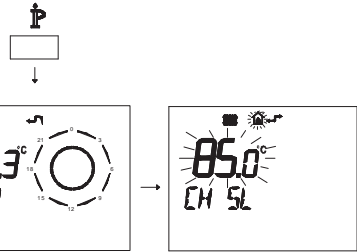

Fig. 7.22
- Press button  $\text{P}$  for more than 3 seconds to enter in *INFO* (Fig. 7.22) mode.